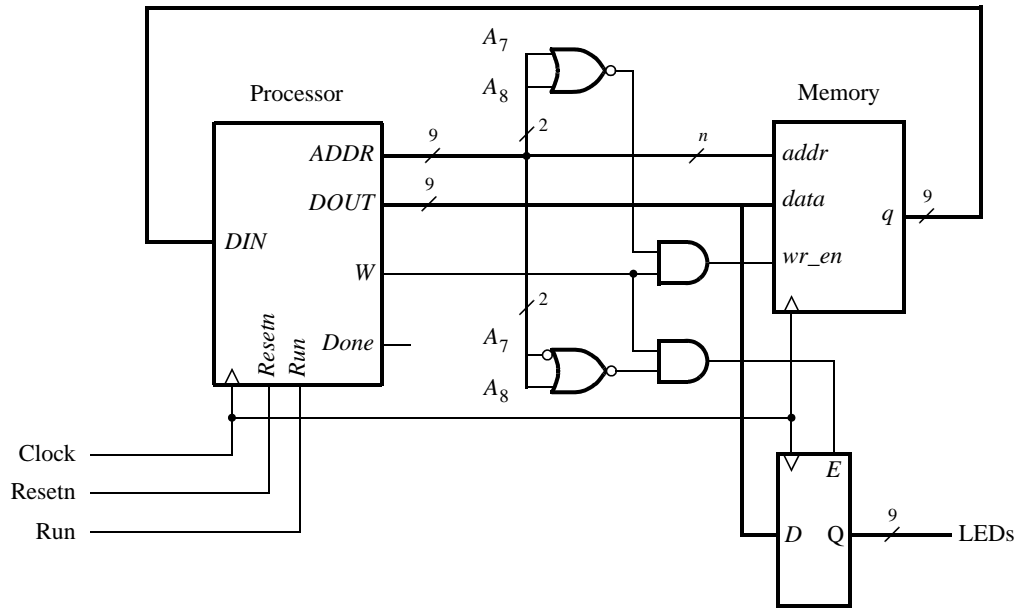

Figure 8. Connecting the enhanced processor to a memory and output register.
Figure 8 illustrates how the enhanced processor is connected to memory and other devices. The memory unit in the figure supports both read and write operations and therefore has both address and data inputs, as well as a write enable input. The memory also has a clock input, because the address, data, and write enable inputs must be loaded into the memory on an active clock edge. This type of memory unit is usually called a *synchronous random access memory* (*synchronous RAM*). Figure 8 also includes a 9-bit register that can be used to store data from the processor; this register might be connected to a set of LEDs to allow display of data on the DE0 board. To allow the processor to select either the memory unit or register when performing a write operation, the circuit includes some logic gates that perform *address decoding*: if the upper address lines are $A_8A_7 = 00$, then the memory module will be written at the address given on the lower address lines. Figure 8 shows n lower address lines connected to the memory; for this exercise a memory with 128 words is probably sufficient, which implies that $n = 7$ and the memory address port is driven by $A_6 \dots A_0$. For addresses in which $A_8A_7 = 01$, the data written by the processor is loaded into the register whose outputs are called *LEDs* in Figure 8.
2. Write Verilog code for the processor and test your circuit by using functional simulation: apply instructions to the *DIN* port and observe the internal processor signals as the instructions are executed. Pay careful attention to the timing of signals between your processor and external memory; account for the fact that the memory has registered input ports, as we discussed for Figure 8.
3. Create another Quartus II project that instantiates the processor, memory module, and register shown in Figure 8. Use the Quartus II MegaWizard Plug-In Manager tool to create the RAM: 1-PORT memory module. Follow the instructions provided by the wizard to create a memory that has one 9-bit wide read/write data port and is 128 words deep. Use a MIF file to store instructions in the memory that are to be executed by your processor.
Connect the *LEDs* register in Figure 8 to $LEDG_{8-0}$ so that you can observe the output produced by the processor.
1. Create a Quartus II project for your circuit and write the Verilog code that includes the circuit from Figure 8 in addition to your *seg7_scroll* module.